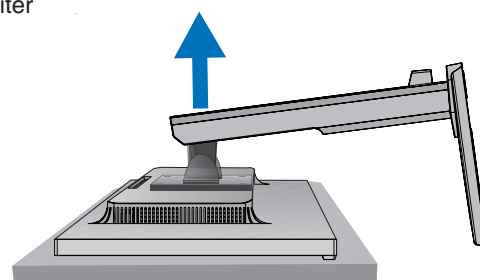

Figure S.2
5. Retirez le support (**Figure S.2**).